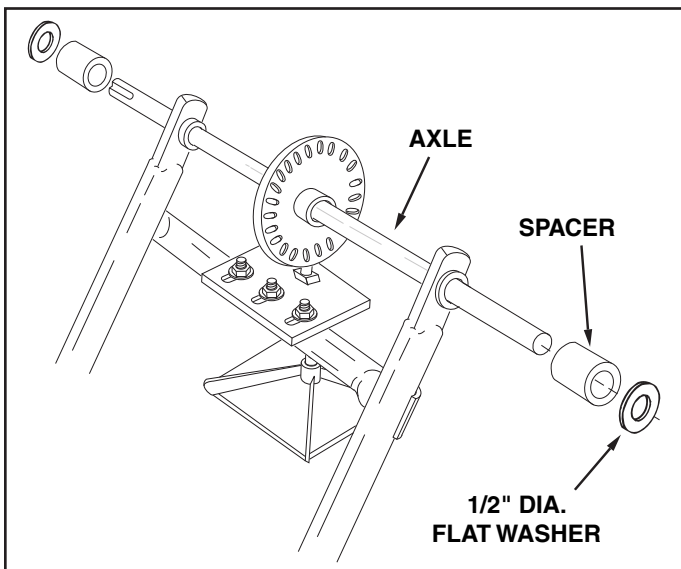

FIGURE 4
- Assemble a spacer and then a 1/2" flat washer onto each end of the axle. See figure 4.